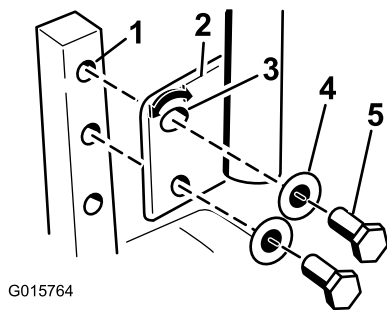

Figure 30
1. Remove the 2 bolts and 2 washers holding the control lever to the control arm shaft (Figure 30).
2. Move the control lever to the next set of holes. Secure the lever with the 2 bolts and 2 washers (Figure 30).